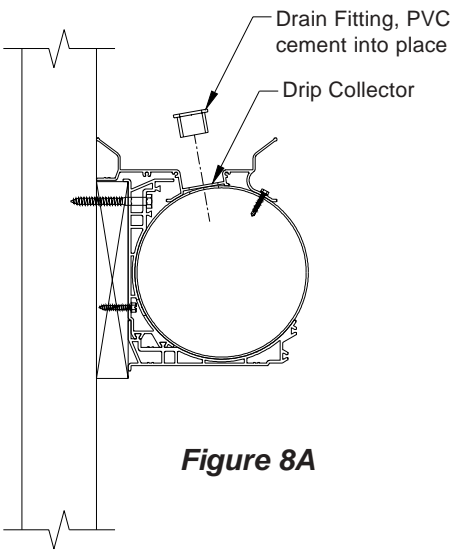

Figure 8A
- 11) Starting 12" from end of drip collector, use a 1^{3/8}" dia. hole saw and drill a hole through the drip collector and 8" pipe every 24" O.C. Make sure not to leave plugs from drilling hole in the pipe. PVC cement drain fitting, into hole. **See Figures 8A and 8B.**